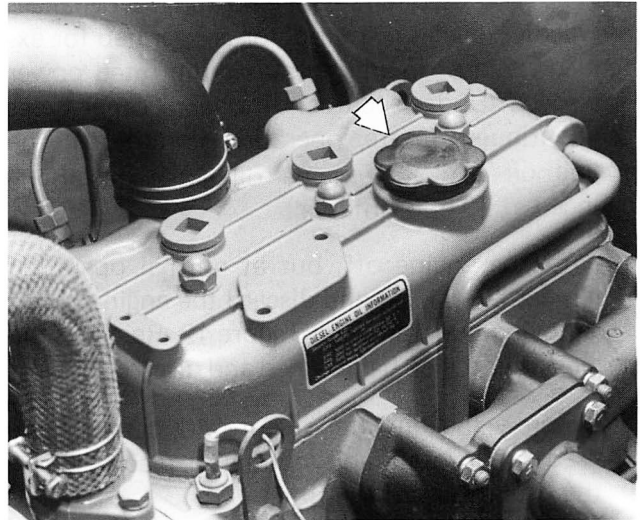

Figure 41 – Engine Oil Filler Cap
2. If the oil level is low, remove the filler cap, Figure 41 and add oil to the engine through the filler hole to bring the oil level between the marks on the dipstick. Be careful not to overfill.